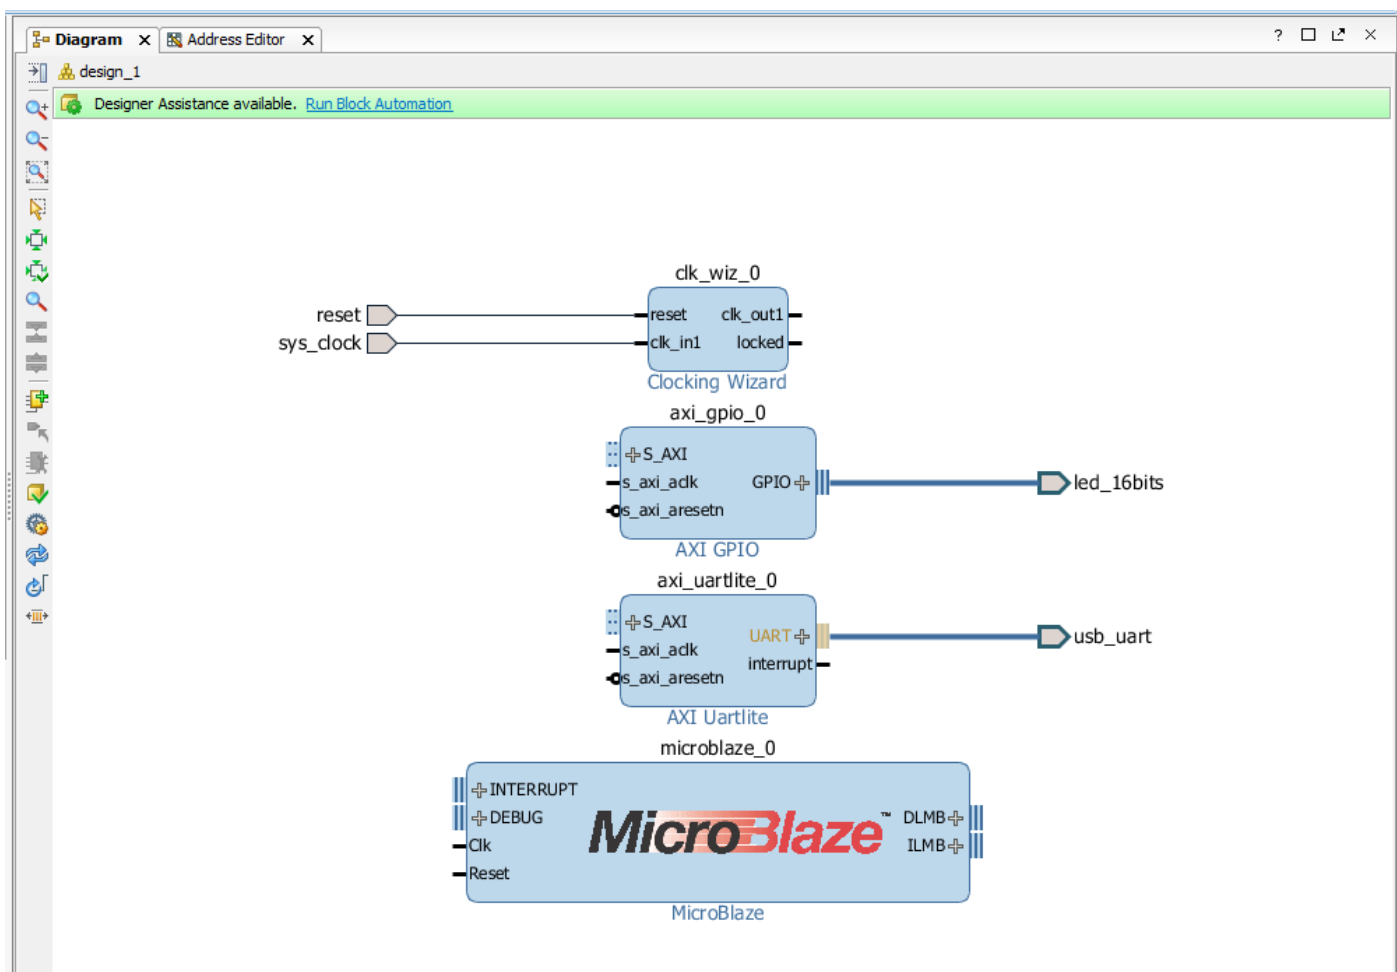

Figure 10: Block Design after Connecting the UART
- The block design should now look like in Figure 10.